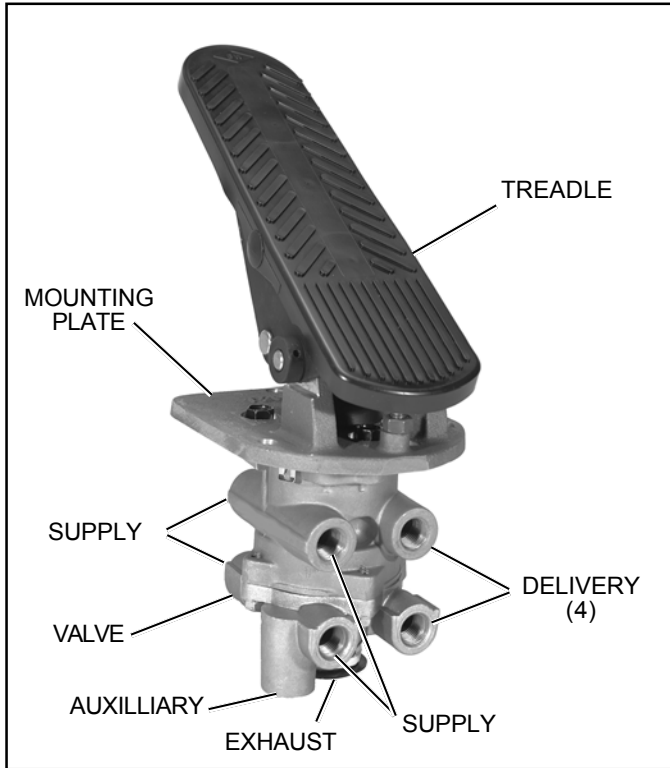
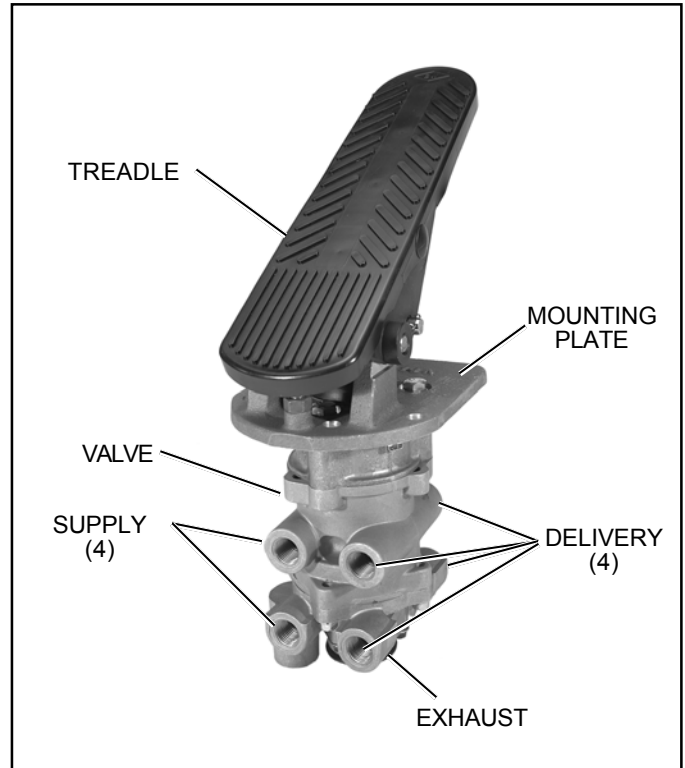

FIGURE 1 - E-8P
FIGURE 2 - E-10P
The E-8P (Figure 1) and E-10P (Figure 2) Dual Brake Valves are floor mounted, treadle operated type brake valves with two separate supply and delivery circuits for service (primary and secondary) braking, which provides the driver with a graduated control for applying and releasing the vehicle brakes.
The E-10P Dual Brake Valve (Figure 2) is similar to the E-8P Dual Brake Valve except that a metal coil spring (5) housed in an upper body assembly replaces the rubber spring (27) used in the E-8P valve. The use of a metal coil spring (and the upper body assembly) provides greater treadle travel and, therefore, provides the driver with a less sensitive "feel" when making a brake application. The E-10P Dual Brake